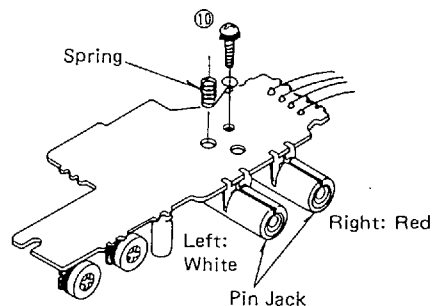

Fig. 4
Remove the main circuit board (1) setscrew (Fig. 4: ⑩)